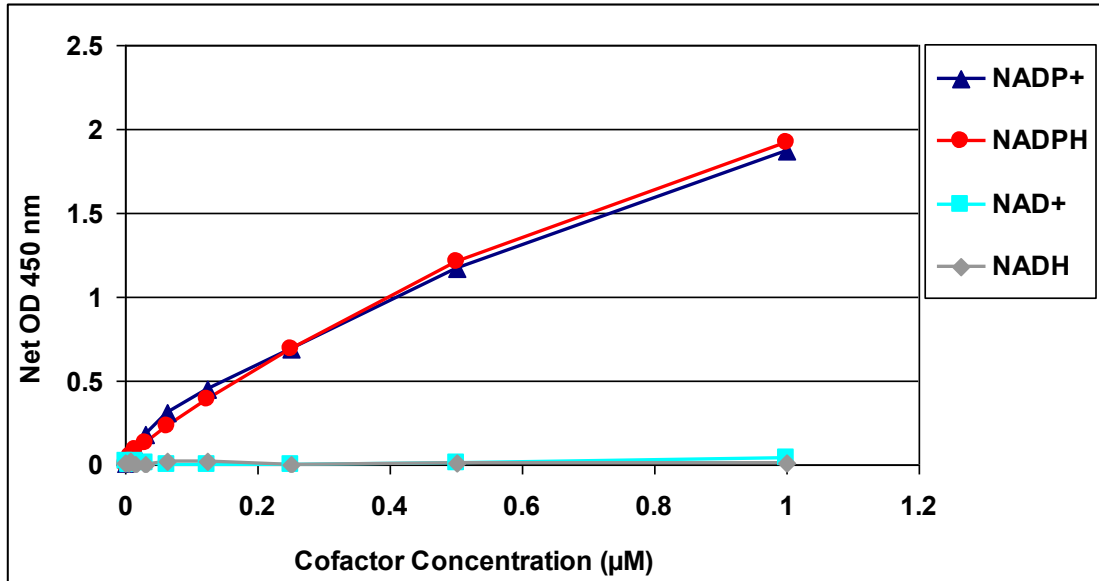

Figure 2: NADP⁺ Standard Curve and Specificity of Assay for NADP⁺ and NADPH. NADP⁺, NADPH, NAD⁺, and NADH, were tested in the NADP⁺/NADPH Assay Kit.
2. Plot the corrected absorbance for the NADP⁺ standards against the final concentration of the standards from Table 1 to determine the best slope (μM⁻¹). See Figure 2 for an example standard curve.